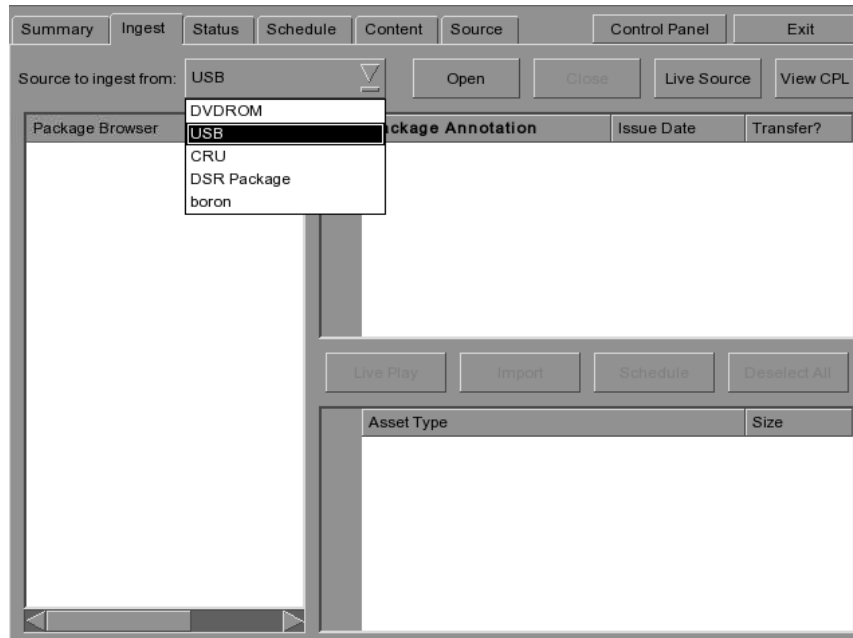

Figure 42 Ingest from USB source
1. Click the [Add] button on the [Devices] tab and enter the name of the device. In this case, it is "PROJECTOR". Set the device type to "PROJECTOR" (see Figure 42).